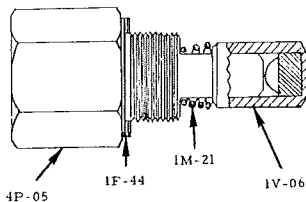

FIGURE 13
3. Primary Inlet and Valve Assembly (Figure 13)
- a. Install new #1M-21 Primary Valve Spring, #1V-06 Primary Valve, and three (3) #1F-44 Gaskets on #4P-05 Inlet Fitting and jet. Note that small end of spring is placed against shoulder of #4P-05 with large end against valve.